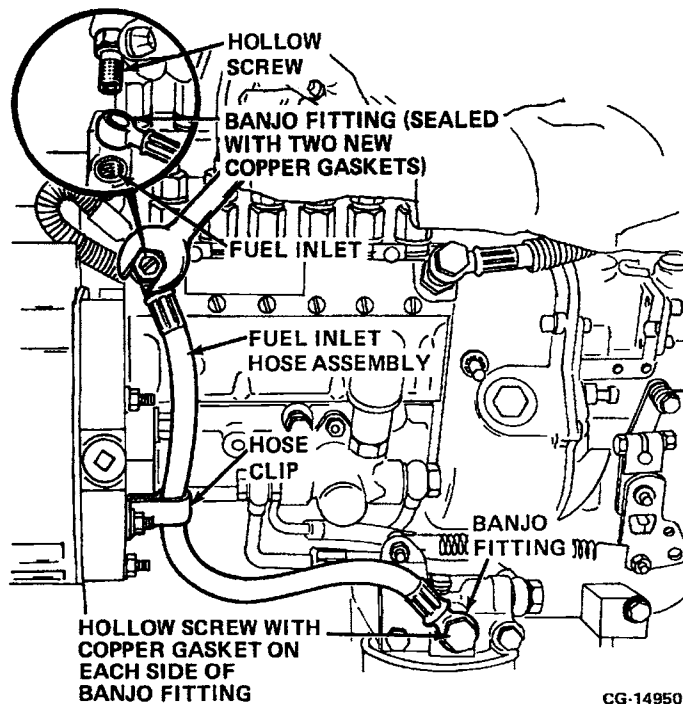

Figure 11.49. Installing the Fuel Inlet Hose Assembly
13. Install the fuel inlet (fuel header to injection pump) hose assembly as follows: (Refer to Figure 11.49.)